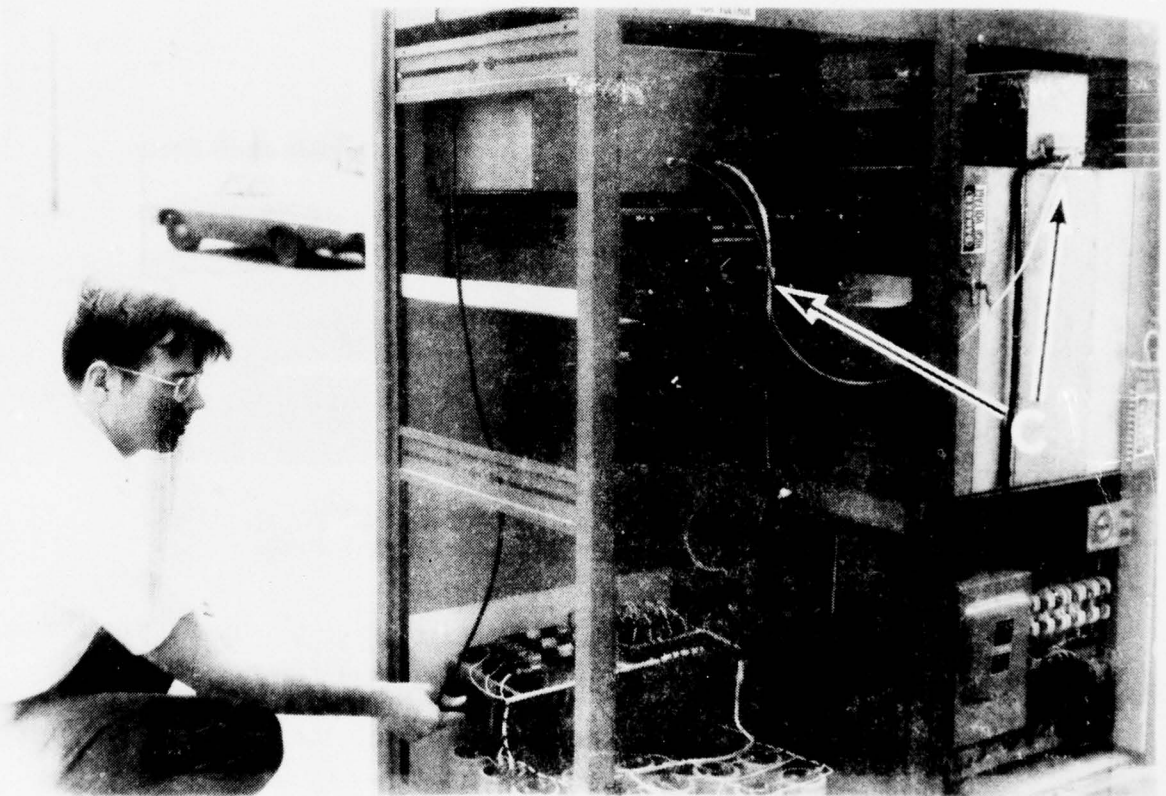

Figure 9. Safety Light Connection
8. Connect the safety light. Be sure to thread the wire as shown in figure 9 or the side panel will not go back on.